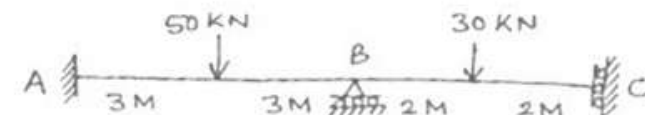

Fig.2
2. A continuous beam ABC is loaded as shown in Fig.2. It has constant flexural rigidity, fixed support at A, roller support at B and guided support at C. Analyse the beam using flexibility method.